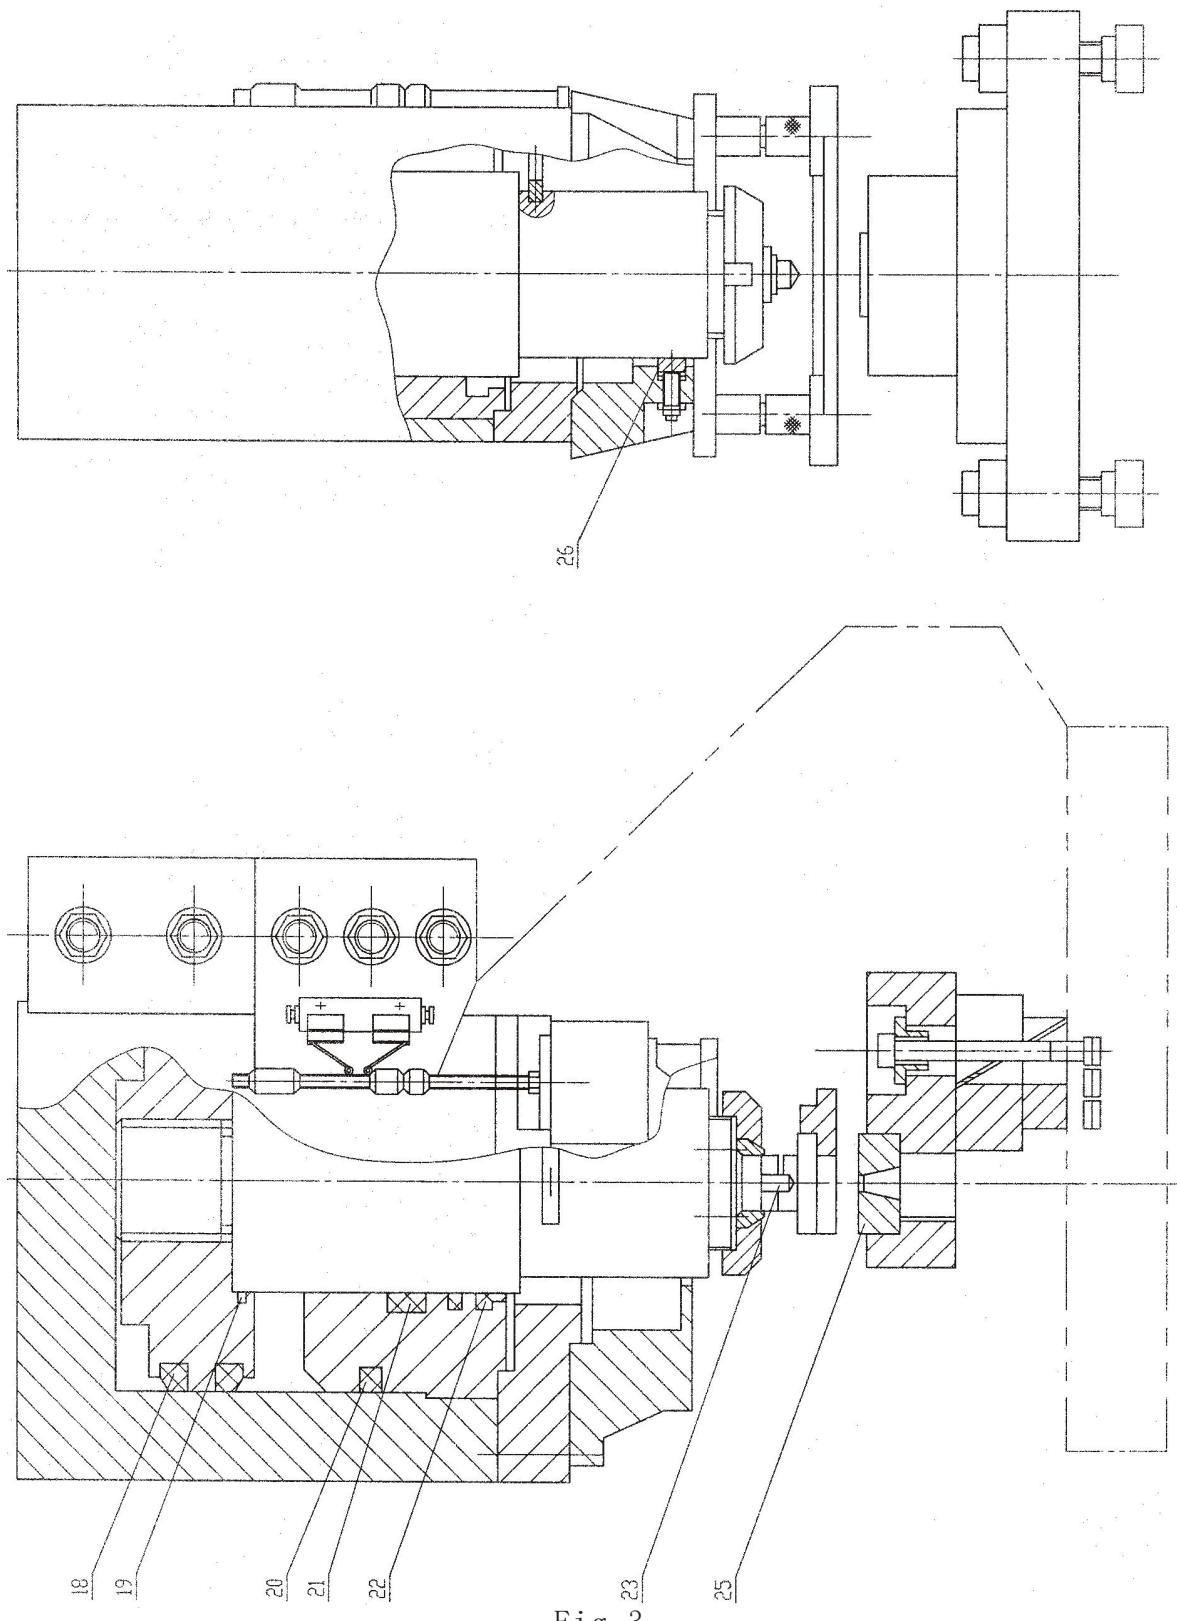

Fig. 3
3) Punching Hole (Fig.3)
(A) Punching itinerary adjustments see (Figure 3)